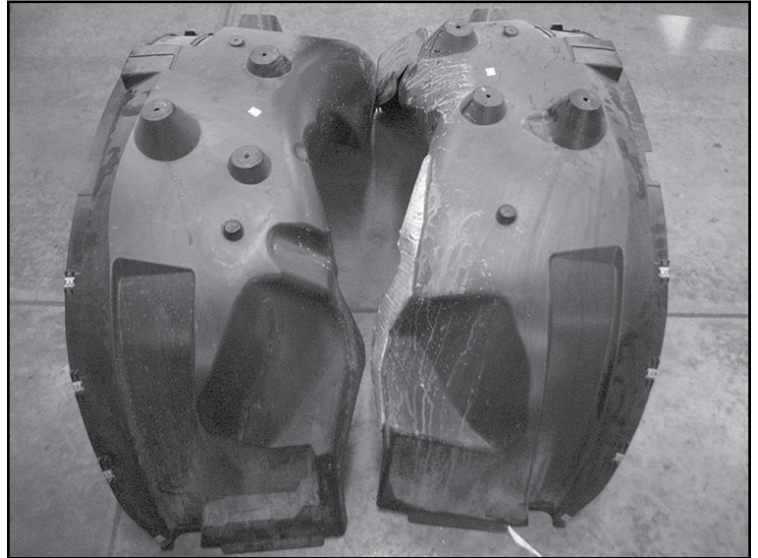

FIGURE 14 - STEP 13
13. Locate the factory fender liners. Set both driver and passenger side down next to each other like shown in **FIGURE 14**.